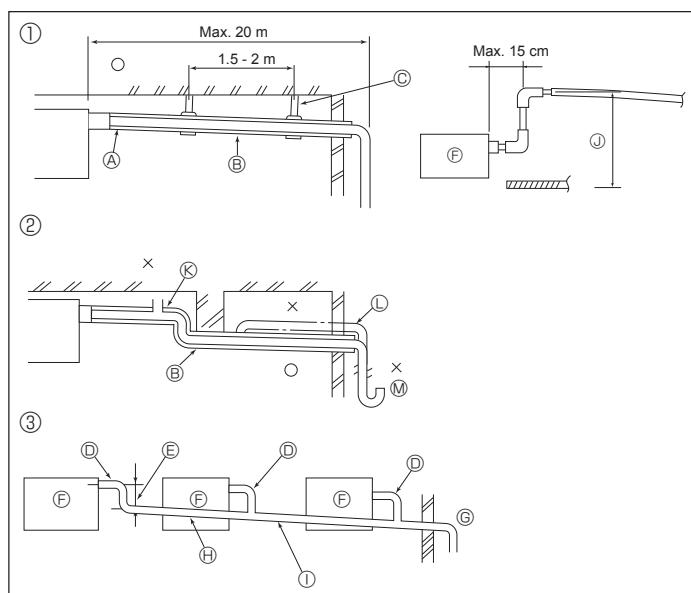
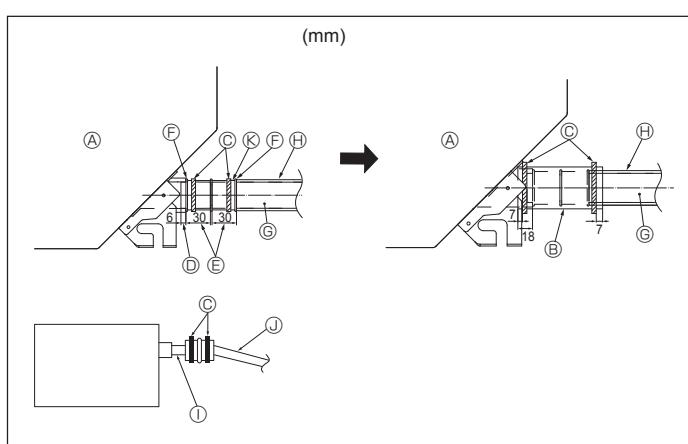

Fig. 5-1
Fig. 5-2
5.1. Drainage piping work (Fig. 5-1)
① Correct piping	⑥ Make the piping size large for grouped piping.
② Wrong piping	⑦ Downward slope (1/100 or more)
③ Grouped piping	⑧ O.D. Ø38 PVC TUBE for grouped piping (9 mm or more insulation)
④ Insulation (9 mm or more)	⑨ Up to 85 cm
⑤ Downward slope (1/100 or more)	⑩ Air bleeder
⑥ Support metal	⑪ Raised
⑦ O.D. Ø32 PVC TUBE	⑫ Odor trap
⑧ Make it as large as possible (about 10 cm)	⑬ Main unit
- Connect the drain socket (supplied with the unit) to the drain port. (Fig. 5-2) (Fix the tube using PVC adhesive then secure it with a band.)
① Main unit	⑥ Drain pipe (O.D. Ø32 PVC TUBE)
② Insulating material	⑦ Insulating material (purchased locally)
③ Band (large)	⑧ Transparent PVC pipe
④ Drain port (transparent)	⑨ O.D. Ø32 PVC TUBE (Slope 1/100 or more)
⑤ Insertion margin	⑩ Matching
⑥ Matching	⑪ Drain socket